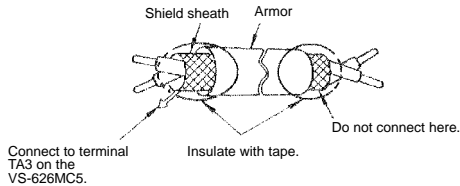

Fig 3.28 Processing the Ends of Twisted-pair Cables
2. Use twisted-pair or shielded twisted-pair cables to connect the PG to prevent operating faults. Process cable ends as shown in *Figure 3.28*. The maximum cable length is 100 m.